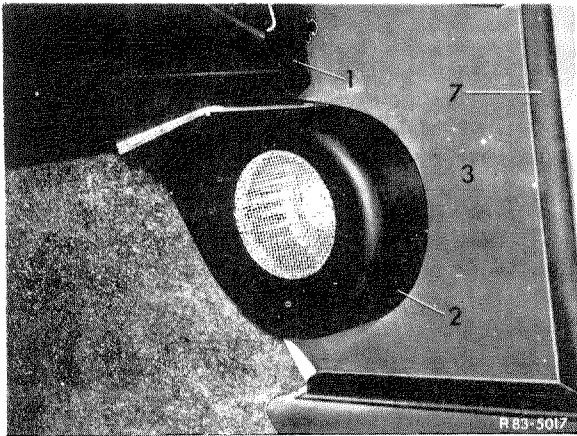

Fig. 83–11/2
The air to be cooled is extracted from the interior of the car by the blower (6). The blower is located in the foot space on the front passenger side. The cooled air is discharged through the two louvres (3) and through the side vents (4) left and right on the instrument panel. The air flow can be directed in any desired direction by adjusting the louvres and the eyeballs in the side vents (Figs. 83–11/1 and 2).
**The air conditioning system is controlled** by two rotary switches which are located centrally below the instrument panel and have the following switch positions (Fig. 83–11/3):